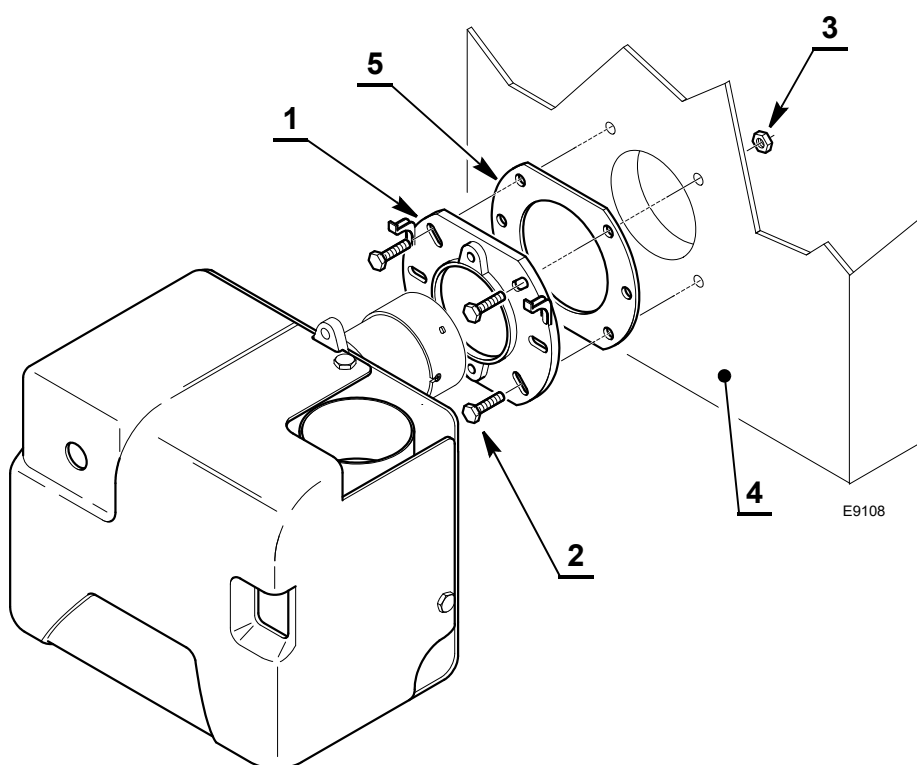

Fig. 7
- Fix the flange 1) to the appliance 4) using the supplied bolts 2) and nuts 3) with the gasket 5) in-between as in Fig. 7.